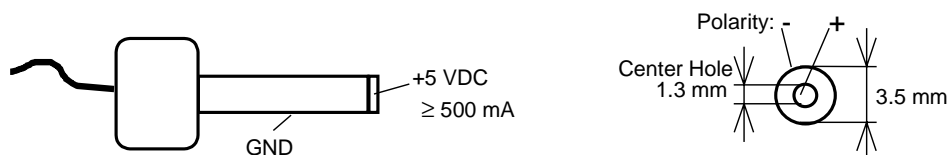

Figure 4: Power Connector
- Using the included power adapter, connect the power socket on the board (X1) to a power supply (refer to Figure 4 for the correct polarity).